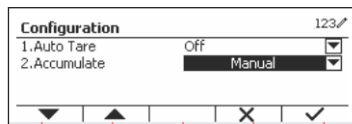

Figure 31
- Gross weight and Net weight cannot be accumulated at the same time – only Gross Weight or Net Weight can be accumulated. (See Figure 31)